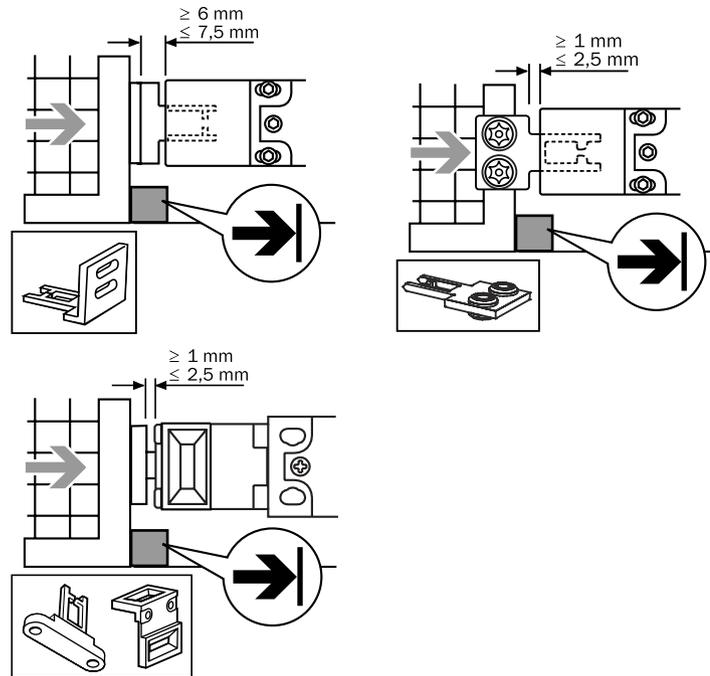

Figure 2: Mounting of actuator and safety switch
Safety switches and actuators must not be used as a mechanical stop, see figure 2
- ▶ Fit an additional stop for moving parts of the guard (see figure 2).
- ▶ Pay attention to the actuator insertion depth (see figure 2).